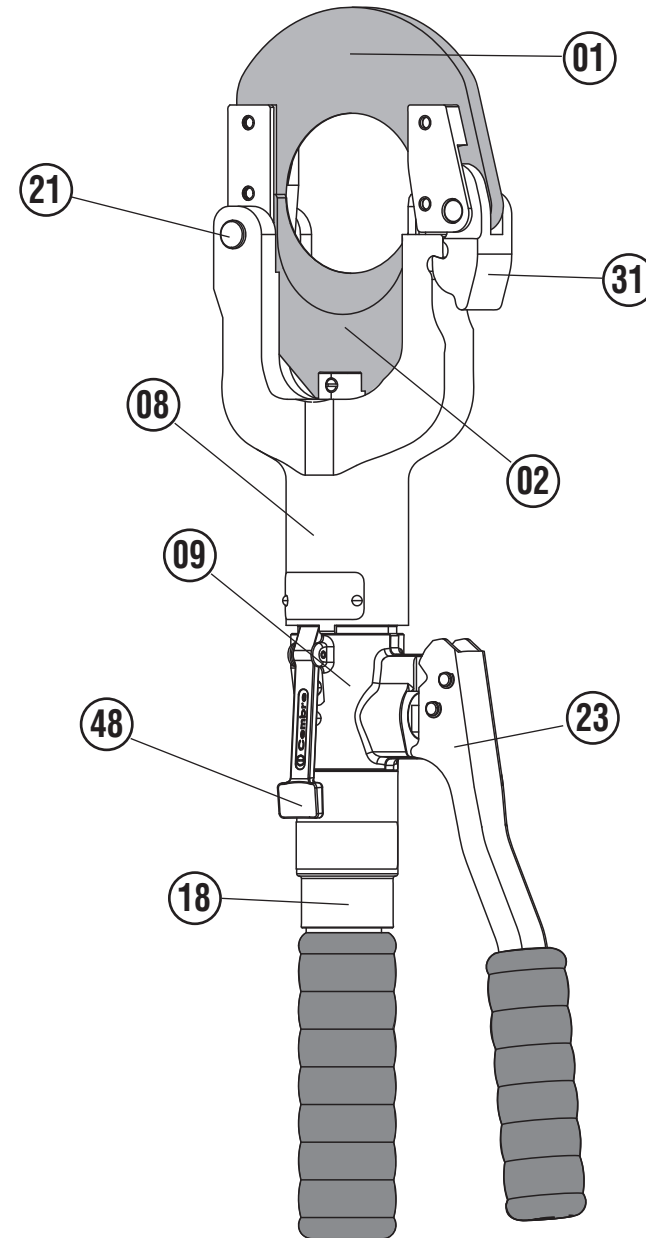

FIG. 3 OVERALL VIEW - VUE D'ENSEMBLE - GESAMTANSICHT - VISTA DEL CONJUNTO - VISTA D'ASSIEME
2. INSTRUCTIONS FOR USE (Ref. to Fig. 3)**2.1) Setting**